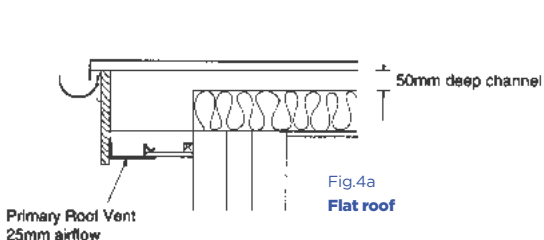

Fig.4a
- With a flat roof a free airflow is required which is equivalent to a continuous 25mm opening (25,000 mm² per metre). See figs. 4a,4b and 4c